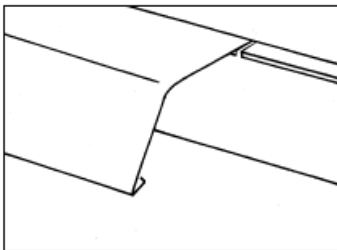

Figure 7
- 4) Angle cut the inside or starter side leg of the lineal slightly (about $1/4$ "). Trim foam back accordingly. (Figure 7)